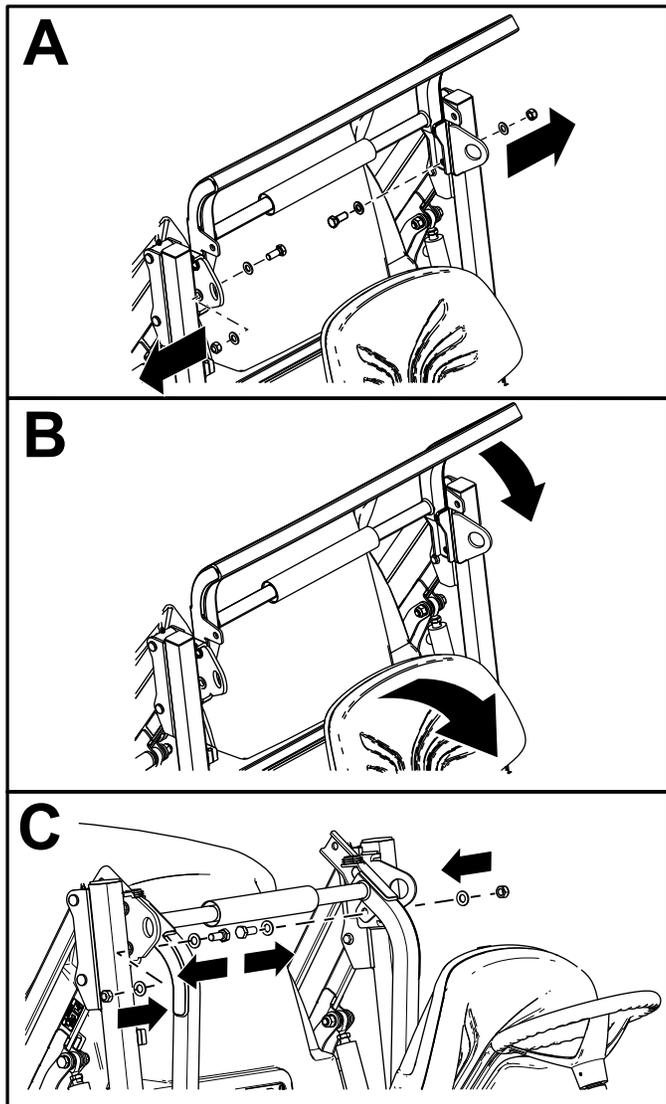

Figure 18
4. Remove the nuts, bolts, and washers (Figure 18).
6. Lower the roll bar and secure it in place with the nuts, bolts, and washers (Figure 18).
Note: Use Figure 18 in reverse order to raise the roll bar.
- Remove the nuts, bolts, and washers from the roll bar (Figure 18).
- Raise the roll bar and secure it in place with the nuts, bolts, and washers (Figure 18).